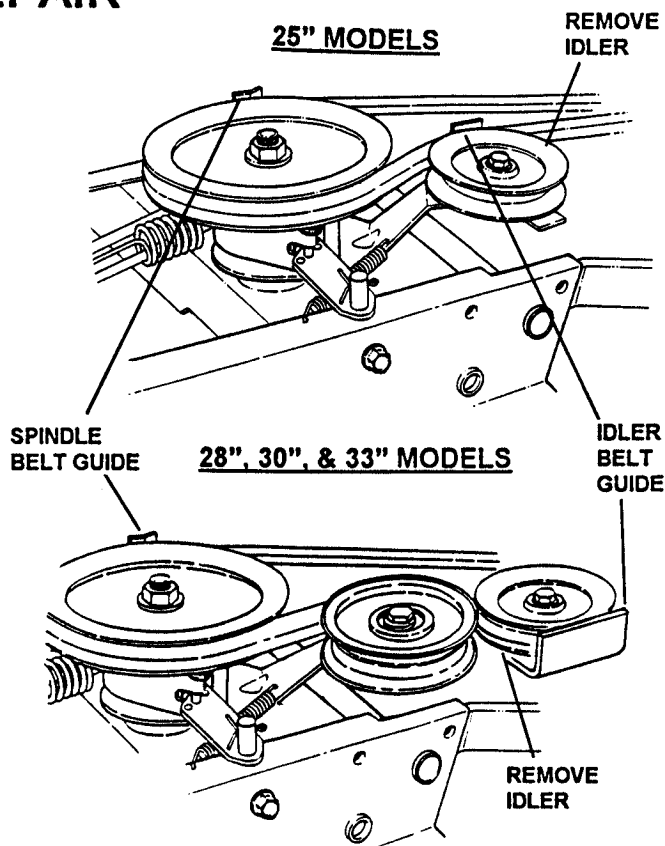

FIGURE 4.24
2. Move transmission shift lever to the neutral (N) position.
4. Route new belt through engine belt (engine belt guide shown in Figure 4.24) to engine pulley. Route belt as shown for the individual models shown in Figure 4.23.